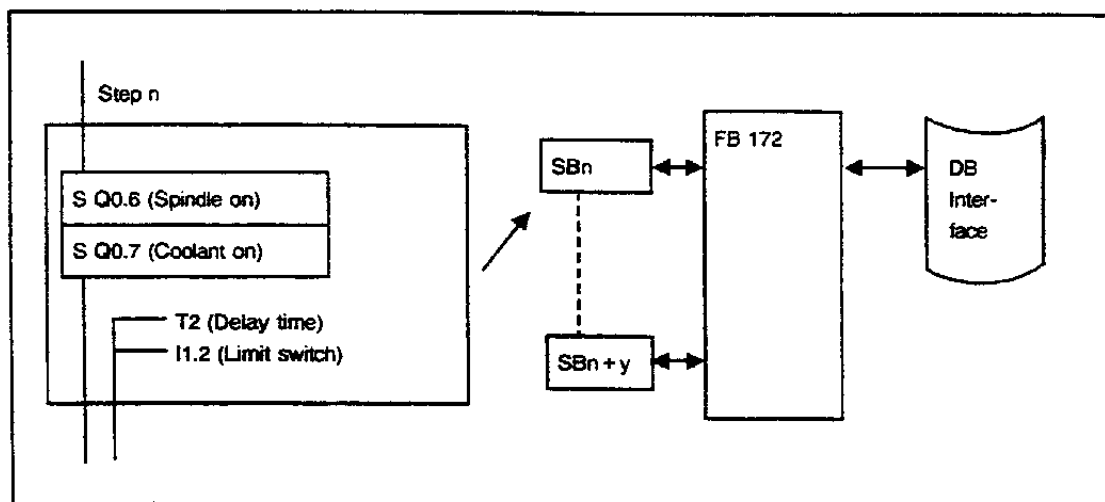

Fig 3.2 Sequence step example.
The individual steps in a sequence are programmed in the SIMATIC S5 controller in sequence blocks (SB) or in program blocks (PB). Each step in the sequence requires an individual SB or PB. In any one program cycle, only one sequence/program block per sequence chain will be activated. The processing of this block will be terminated and processing of the next block in the chain will be started when the transition conditions have been met (see Fig 3.2).